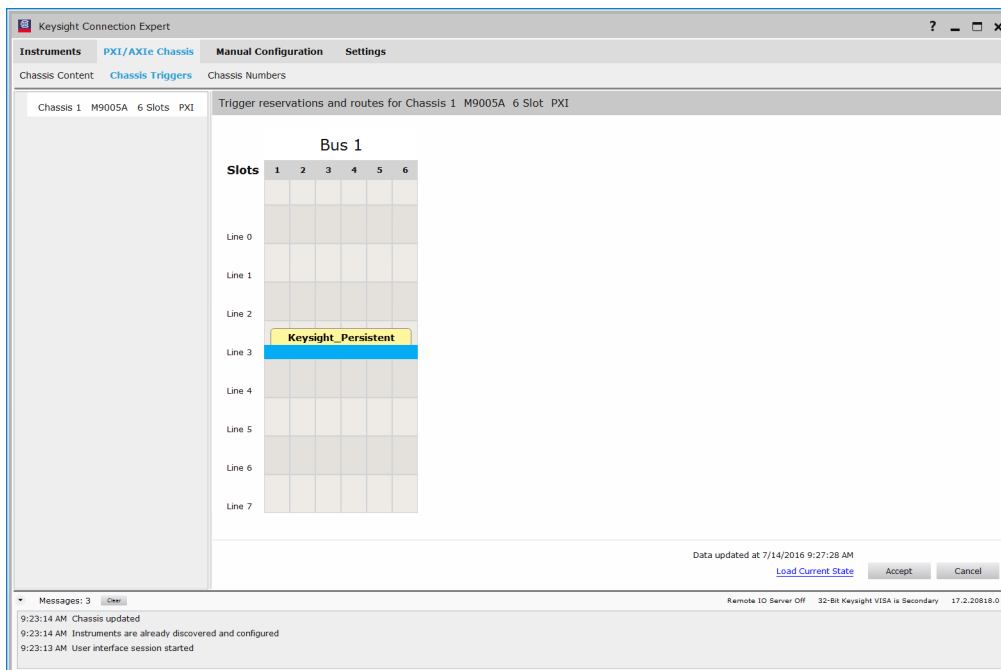

Figure 16 Reserving a Trigger Line in Keysight Connection Expert
- 3 Select which trigger lines you want to statically reserve. **Figure 16** shows Trigger 3 reserved.